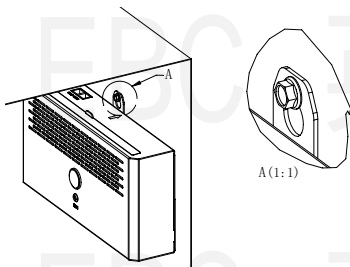

Figure 4.5 Schematic diagram of tightening state of screw
4) Hang the sterilizer on the mounting screw. Tighten the tapping screw with the adjustable hexagon wrench, as shown in Figure 4.5.